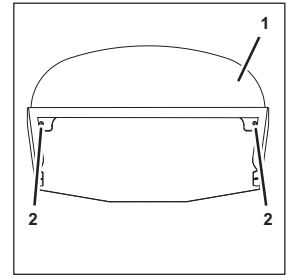
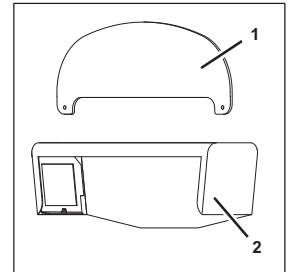

Fig. 27
Fig. 28
- Remove the fastening bolts (Fig. 27/2) from the moonlight disc (Fig. 27/1).
- Lift and remove the moonlight disc (Fig. 28/1) from the hood (Fig. 28/2).
- If required, attach new mounting brackets (Fig. 27/2) within the hood (Fig. 28/2) using double-sided tape.
- Position the new moonlight disc (Fig. 28/1) on the hood (Fig. 28/2).
- Attach the moonlight disc (Fig. 27/1) using the fastening bolts (Fig. 27/2).